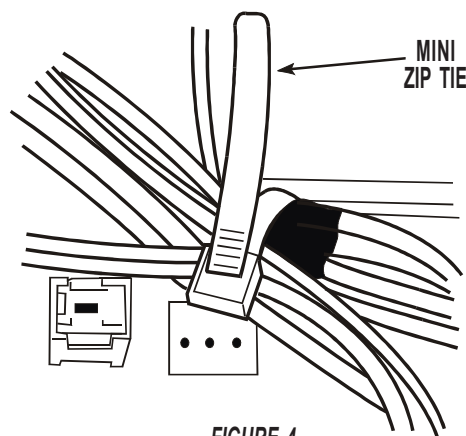

FIGURE 4
8. Using mini zip ties provided, secure wiring together, away from electrical components. See Figure 4.